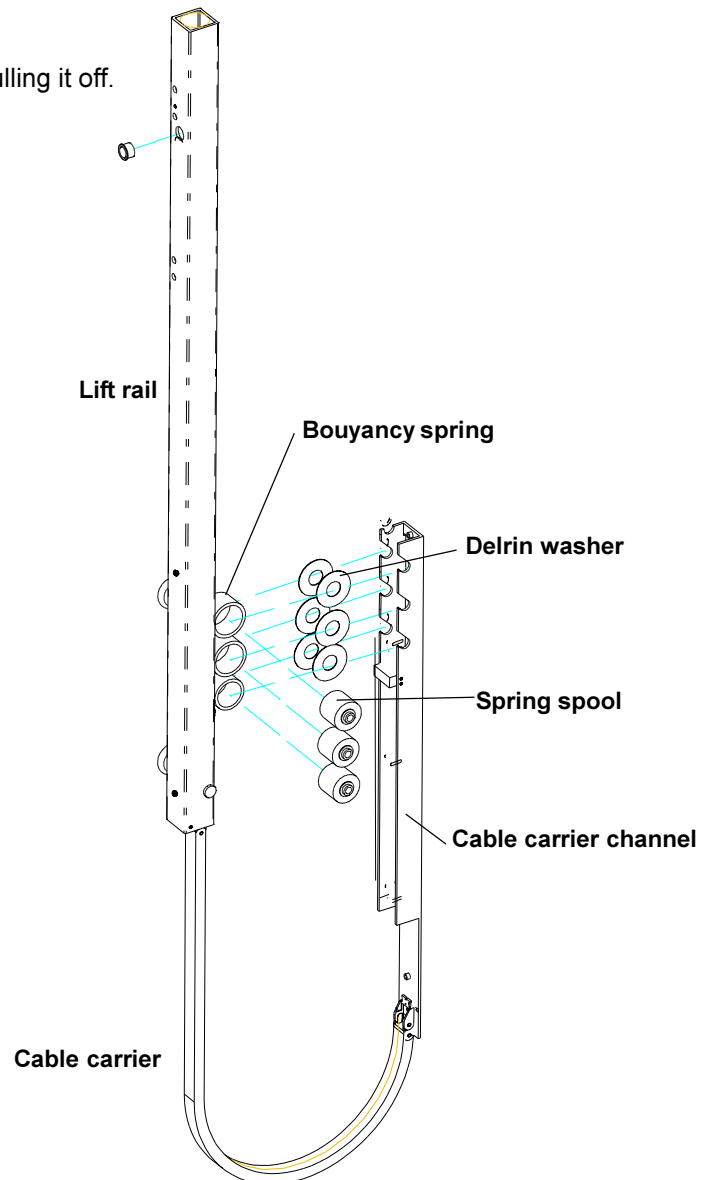

Figure 5-13
5.252 Replacing the rail buoyancy springs (Figure 5-13)